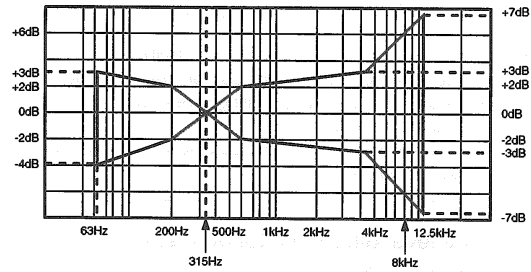

Fig. 8
2. Playback the 315Hz/-20dB and 12.5 kHz to 63 Hz/-20dB sections of the test tape (QZZCFM) and then, using the 315 Hz/-20dB playback output as a reference (0 dB), confirm that the playback frequency response is within the range shown in Fig. 8.